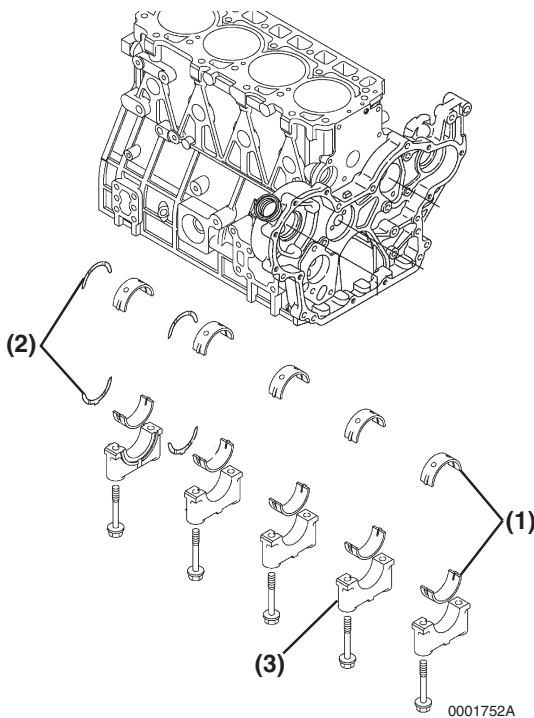

Figure 6-134
2. Reinstall new bearing inserts (Figure 6-134, (1)) and thrust bearing (Figure 6-134, (2)) in the cylinder block and main bearing caps. Apply a liberal coat of clean engine oil to the bearings and crankshaft journals.
4. Reinstall the main bearing caps (Figure 6-134, (3)).